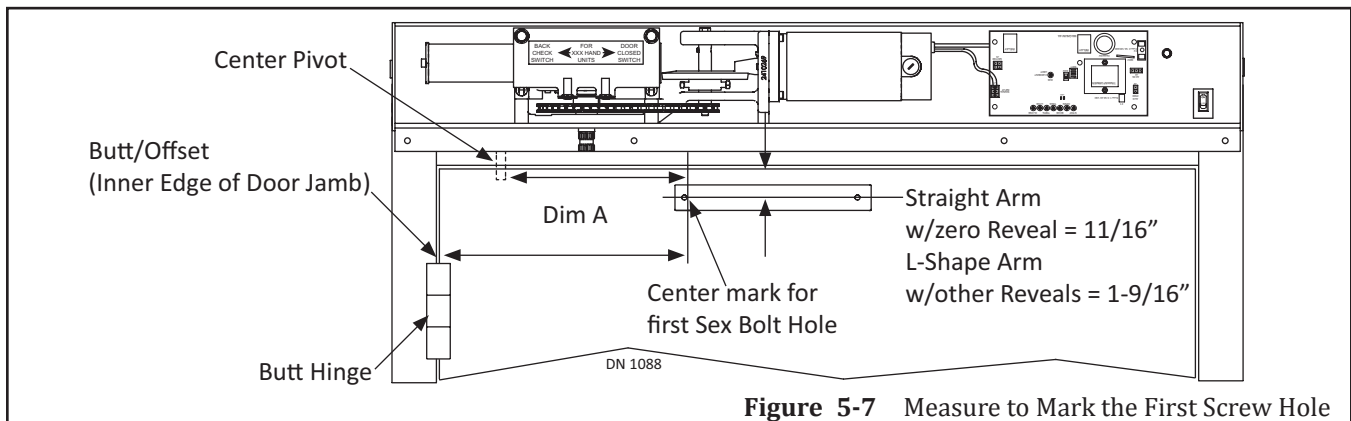

Figure 5-7 Measure to Mark the First Screw Hole
2. Mark a Vertical line reflecting the measured distance on the face of the Swing door. Please see Figure 5-7.